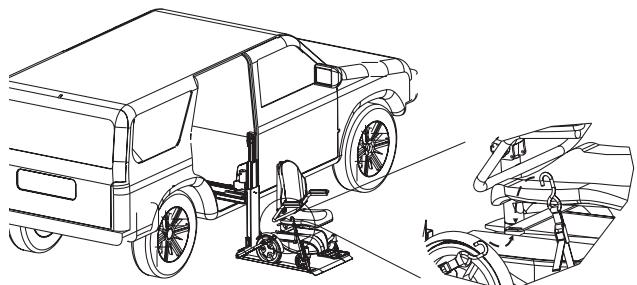

Figure 3-9
1. Each corner of the AL690 platform has a restraint attached, with a hook on the end. Place each hook in either the anchor plate slot or in each U-bolt, or tie-down loops attached to the mobility device. *See Figure 3-9.*